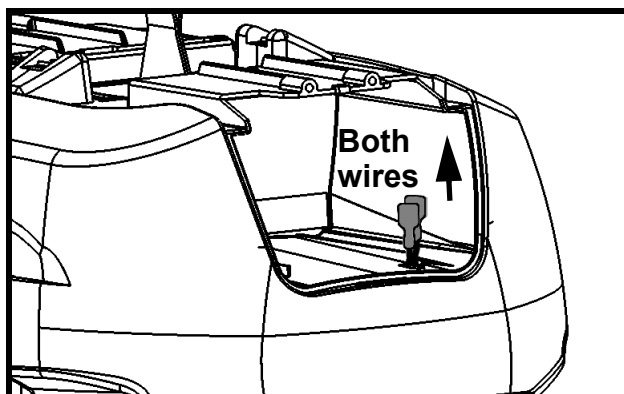

Fig. 31
- 3) Pass the battery wires through their openings (see Fig. 31).